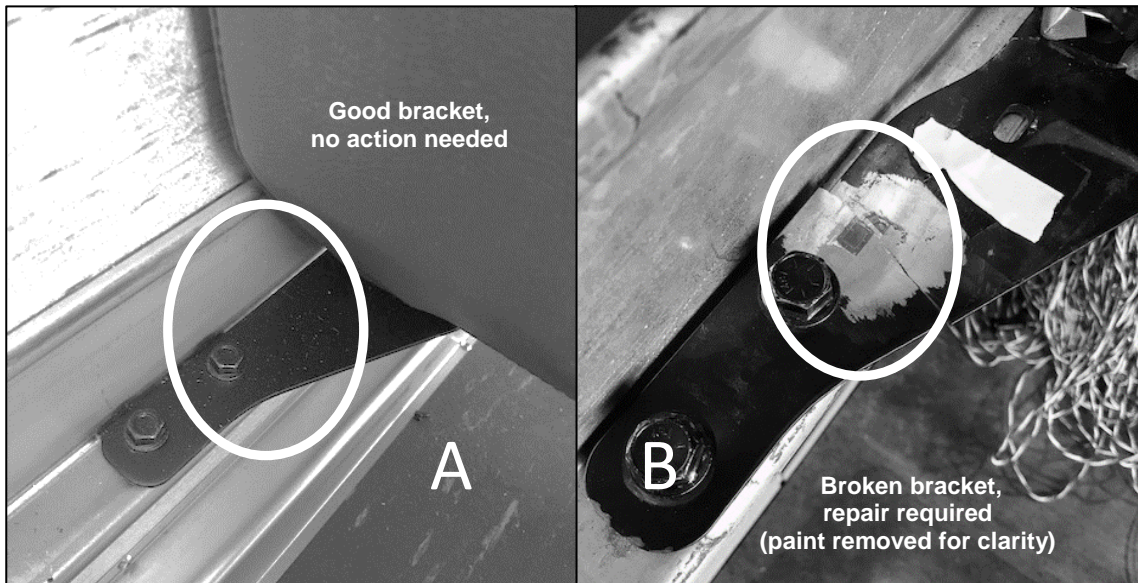

Figure 3
2. Is the bracket intact? Is the bracket cracked or broken? See **Figure 3, Items A and B.**
6. Place the new bracket over the existing, broken bracket. Reposition the broken piece to its original placement, if needed. Install the reinforcement bracket as shown in **Figure 3**.